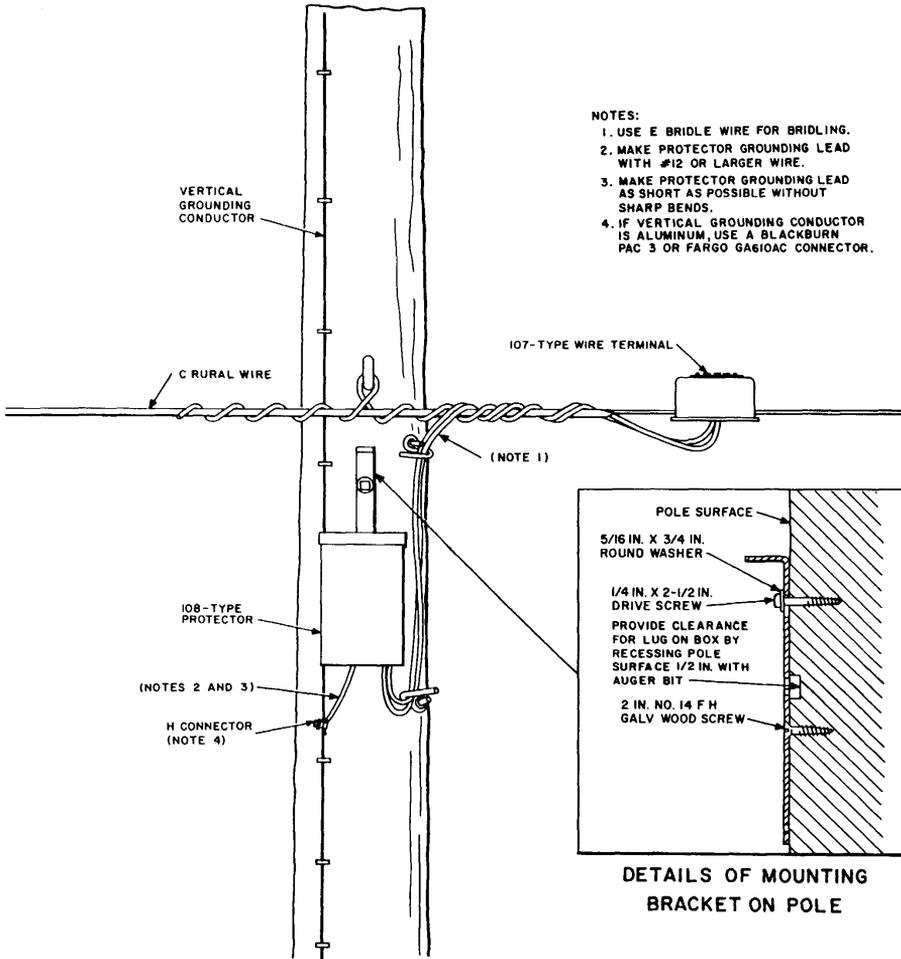

Fig. 4—108-Type Protector Mounted on C Rural Wire
4.03 The method of mounting a 108-type protector and wiring it to C rural wire is illustrated in Fig. 4. Section 462-525-150 describes the method of mounting and wiring the 107-type wire terminal. Use